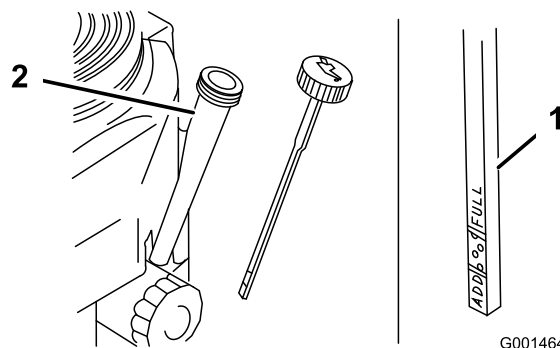

Figure 23
4. Clean around the oil dipstick (Figure 23) so that dirt cannot fall into the filler hole and damage the engine.
5. Unscrew the oil dipstick and wipe the end clean (Figure 23).
6. Slide the oil dipstick fully into the filler tube, but do not thread onto tube (Figure 23).
8. Slowly pour approximately 80% of the specified oil into the filler tube (Figure 23).